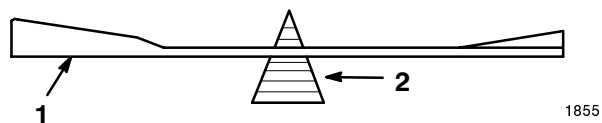

Figure 37
2. Check the balance of the blade by putting it on a blade balancer (Fig. 37). If the blade stays in a horizontal position, the blade is balanced and can be used. If the blade is not balanced, file some metal off the back side of the blade. Repeat this procedure until the blade is balanced.